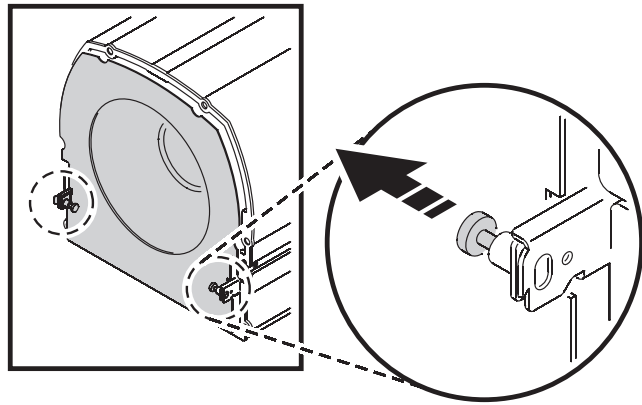

Figure 19: Slider lock
3. See Figure 19. Pull out the slider locks in the sliders on each side at the front of the housing and slide the lamp/effects assembly out of the housing, avoiding strain on internal wiring. Note that a lamp cutout mechanism is activated as soon as the assembly is moved from its normal position.